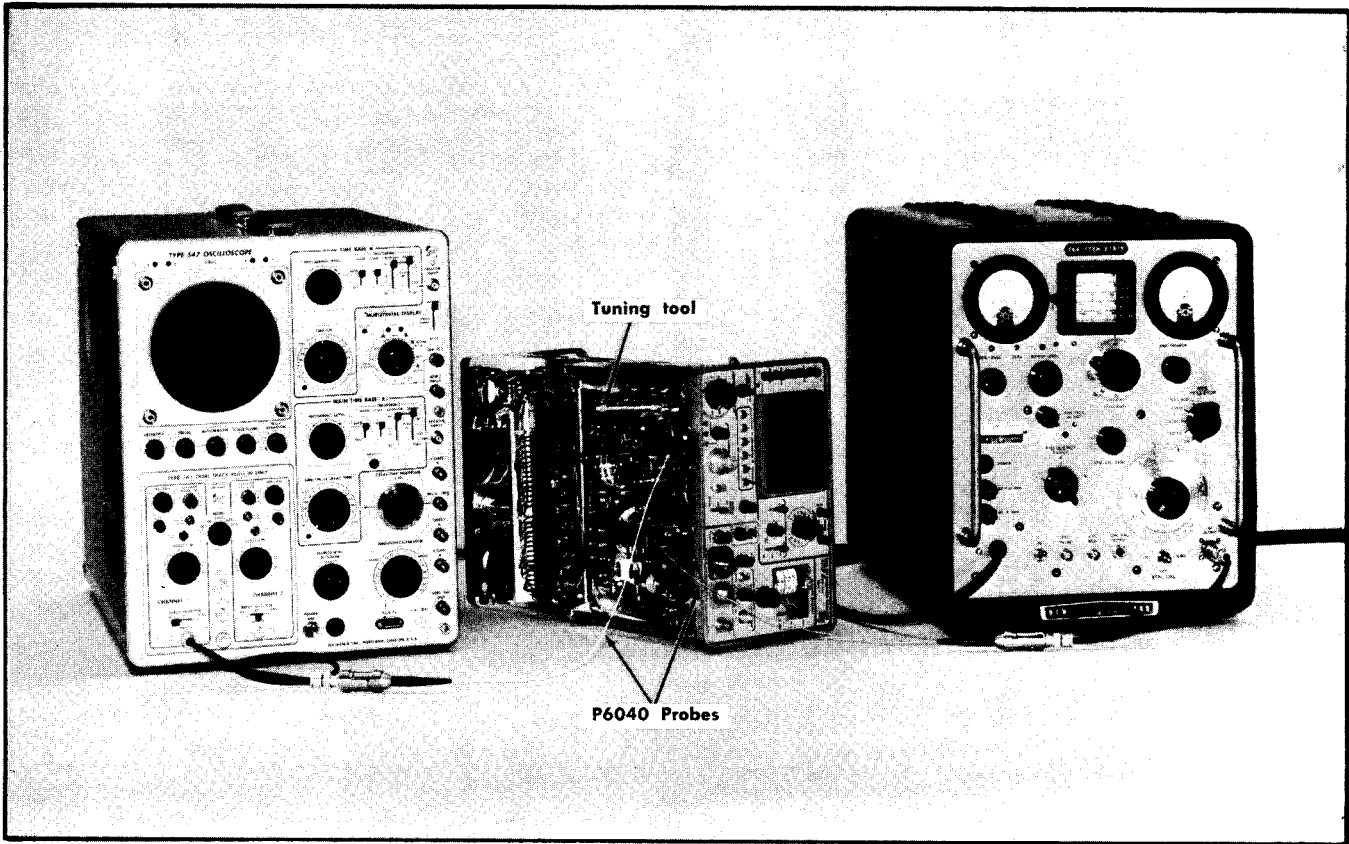

Fig. 6-38. Equipment setup to adjust wide band IF amplifier and check flatness.
a. Equipment setup is given in Fig. 6-38.